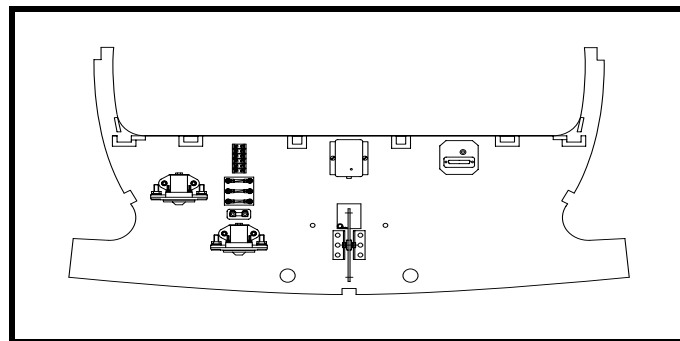

Figure 29
- ❑ On the aft face of the frame, install the six saddle gussets for the luggage compartment floor supports as shown in Figure 29. The location of the floor supports is shown on Drawing No. 315. The two inboard supports are 15x20 spruce and the four outboard supports are 30x15 spruce.